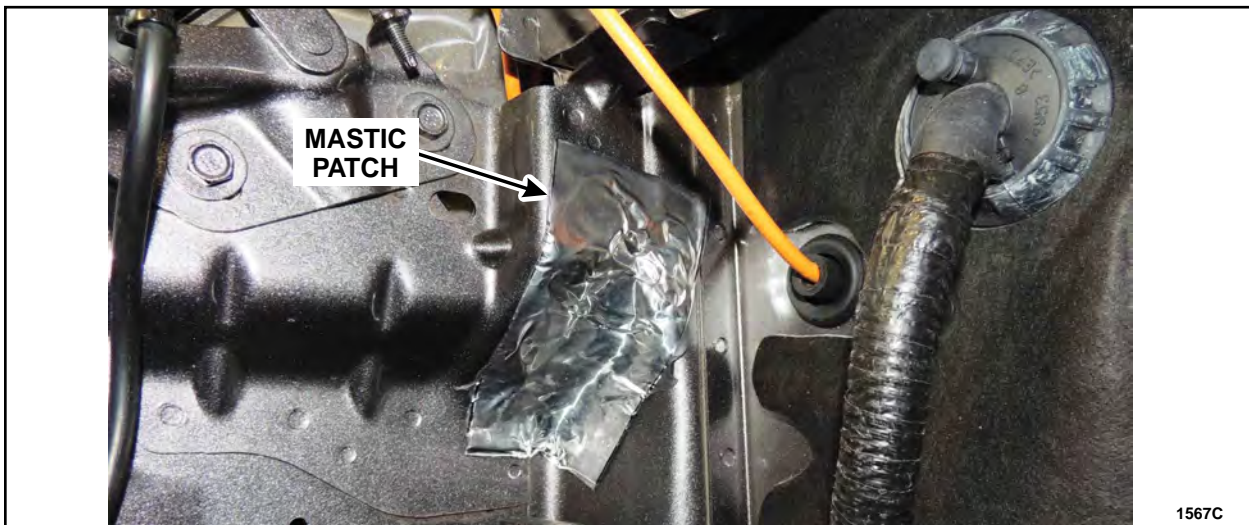

FIGURE 10
11. Cut the supplied mastic patch to 8 cm x 13 cm (3 in x 5 in) and apply the patch to the body joint. See Figure 10.